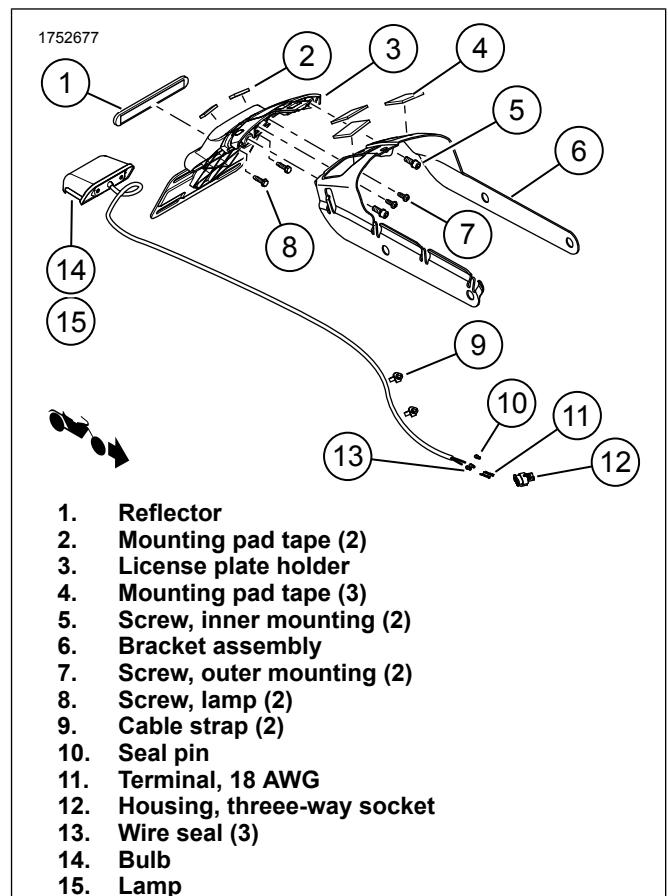

Figure 2. License Plate Bracket
2018-Later Softail models FXBB, FXBBS, FLSL with side mount license plate: Separate purchases of each component to assemble the Center Mounted License Plate Holder is required. See Figure 2.
1. See Figure 2. Peel backing and install two mounting pad tape (4) pieces to bracket assembly (6).
2. Peel backing and install mounting pad tape (4) piece to license plate holder (3)
3. Peel backing and install two mounting pad tape (2) pieces to license plate holder (3).
4. Install license plate holder (3) to bracket assembly (6) with screws (5, 7).
5. Tighten screws (5).
10. See Figure 2. Connect pins to 3-pin connector (12). See EDM.